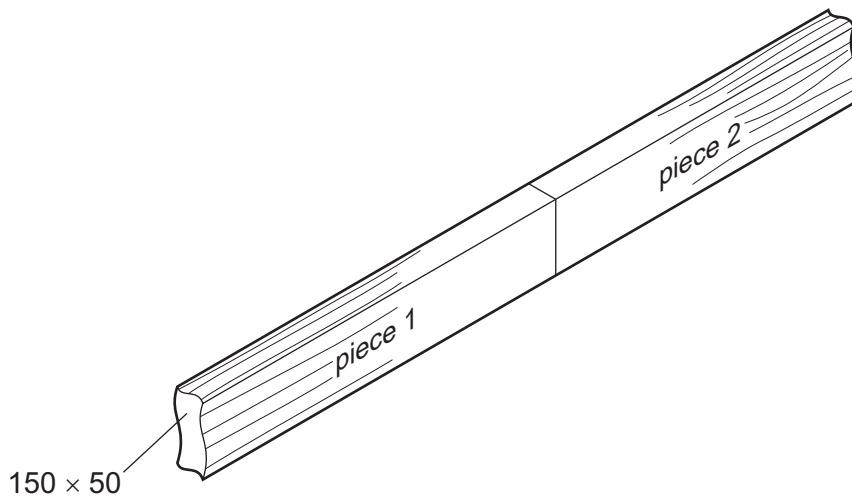

Fig. 12
- (f) When constructing a beam, two pieces of timber may need to be joined end-to-end in line with each other as shown in Fig. 12.